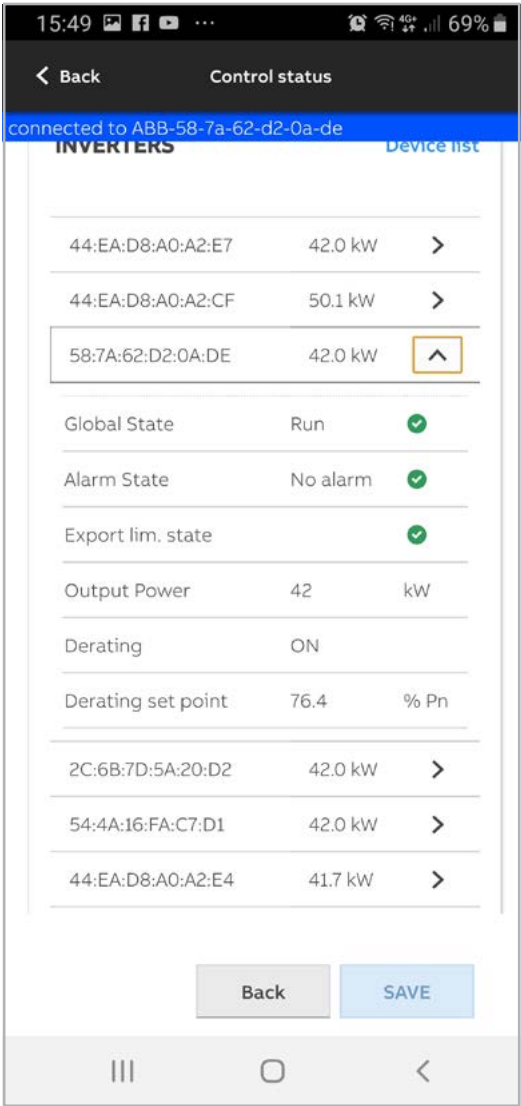

Figure 23 - Export monitoring: inverter status
- Figure 23 - Export monitoring: inverter status